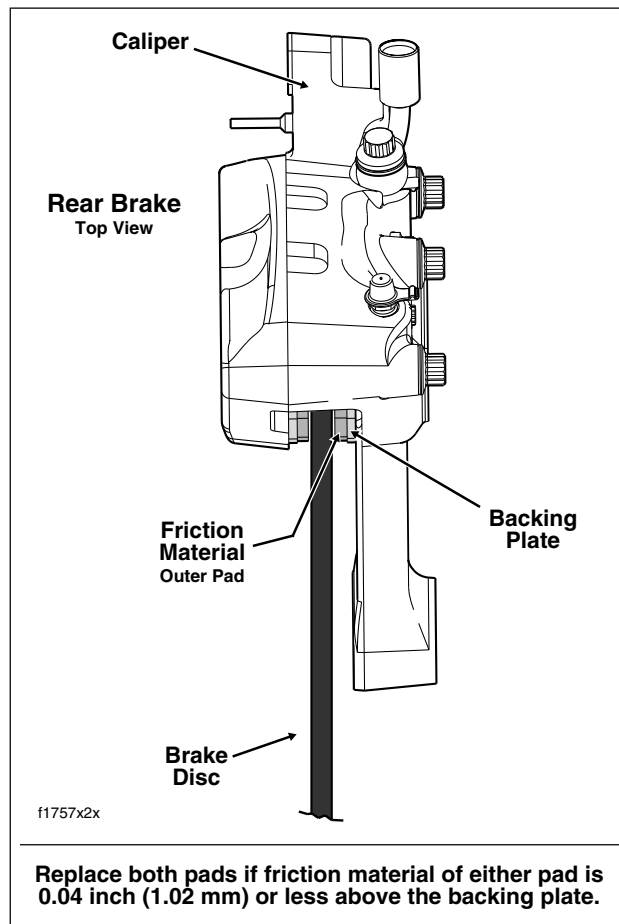

Figure 2-61. Measure Brake Pad Wear
1. Look down at the back of the rear caliper. See Figure 2-61.